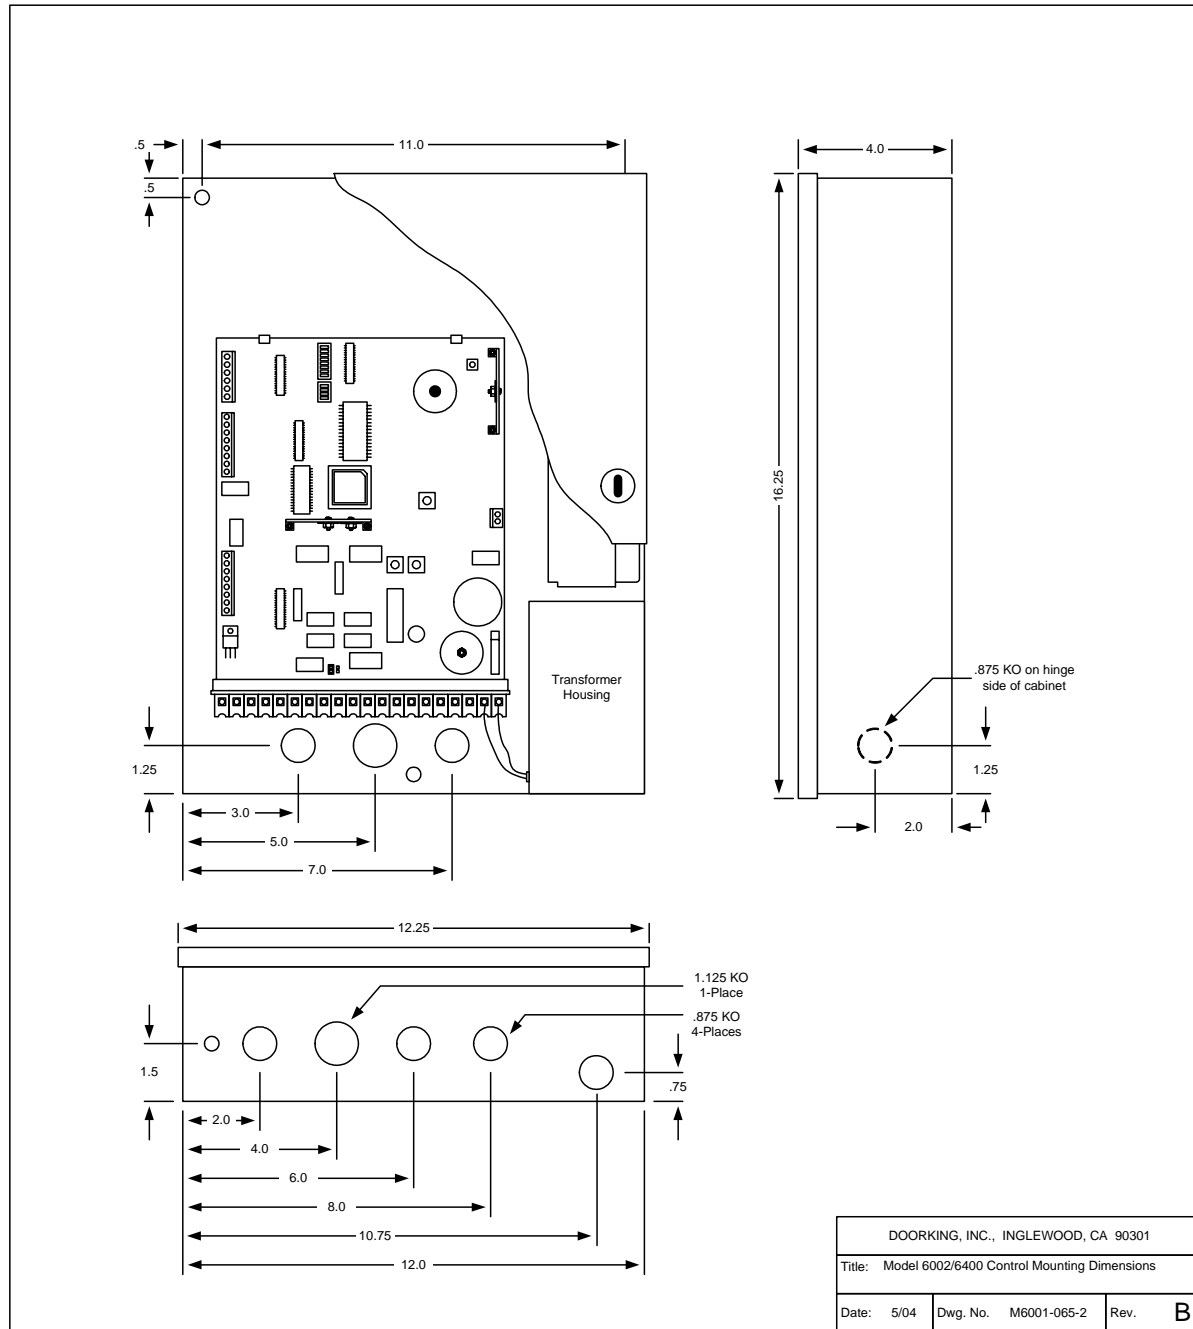

Figure 13
- The conduit requirements shown in figure 13 are for a typical dual swing gate installation. The conduit requirements for your application may vary from this depending on your specific needs.